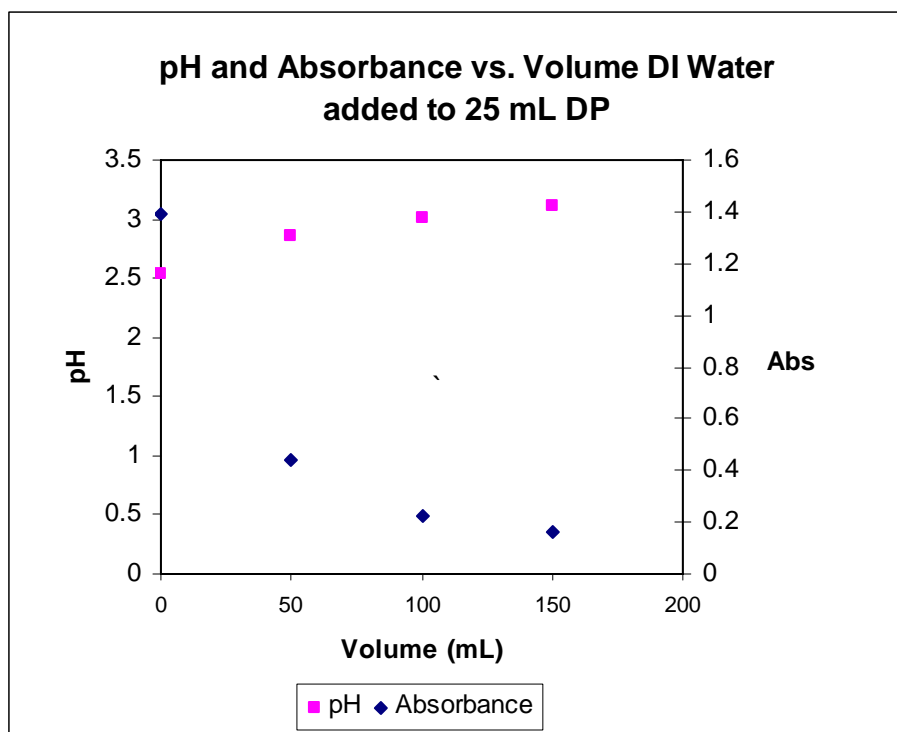

Figure 2
10. Since there are now two distinct plots on the graph, a legend is desirable. With the chart highlighted, click on the Chart menu, Chart options, and Legends tab. Select Show Legend and Bottom. To change the labels in the legend, highlight the chart. In the Chart menu, select Source Data. Highlight series 1 and click Name. Type in "Absorbance" which will now appear in the legend for Series 1. Do the same for series 2 (pH). At this point your chart should look like that in Figure 2.
1. **To change the size and location of the chart:** Click inside the chart but outside the graph area to select it. Notice that little black boxes appear at the corners and middle of the graph. Move your cursor to a corner and notice that the cursor becomes a double-headed arrow, which can be dragged to change the size of the graph. Once the highlighted graph is the desired size, you can drag it to any location you want on the spreadsheet. To print the chart (as in Figure 2), highlight it, and select Print from the File menu.
Turn in (1) a copy of your lab notebook pages with your recorded data and observations and (2) a graph similar to that shown in Figure 2. Both should be attached to a single page word processed document (with your name and lab section at the top) answering the following questions.